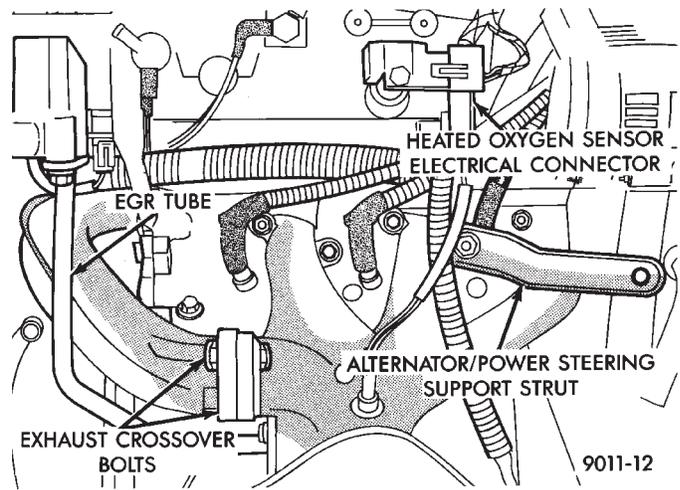

Fig. 16 EGR Tube, Heated Oxygen Sensor and Alternator/Power Steering Strut
(1) Raise vehicle and disconnect exhaust pipe from rear (cowl side) exhaust manifold at articulated joint.
(2) Separate EGR tube from rear manifold and disconnect Heated Oxygen Sensor lead wire (Fig. 16).
(3) Remove Alternator/Power Steering Support Strut (Fig. 16).
(4) Remove bolts attaching cross-over pipe to manifold (Fig. 16).
(5) Remove bolts attaching rear manifold to cylinder head and remove manifold.
(1) Install rear exhaust manifold and tighten attaching bolts to 23 N•m (200 in. lbs.).
(2) Attach exhaust pipe to exhaust manifold and tighten shoulder bolt to 28 N•m (250 in. lbs.).
(3) Attach crossover pipe to exhaust manifold and tighten bolt to 33 N•m (25 ft. lbs.) and connect oxygen sensor lead (Fig. 16).
- (4) Reinstall EGR Tube and Alternator/Power Steering Strut (Fig. 16).